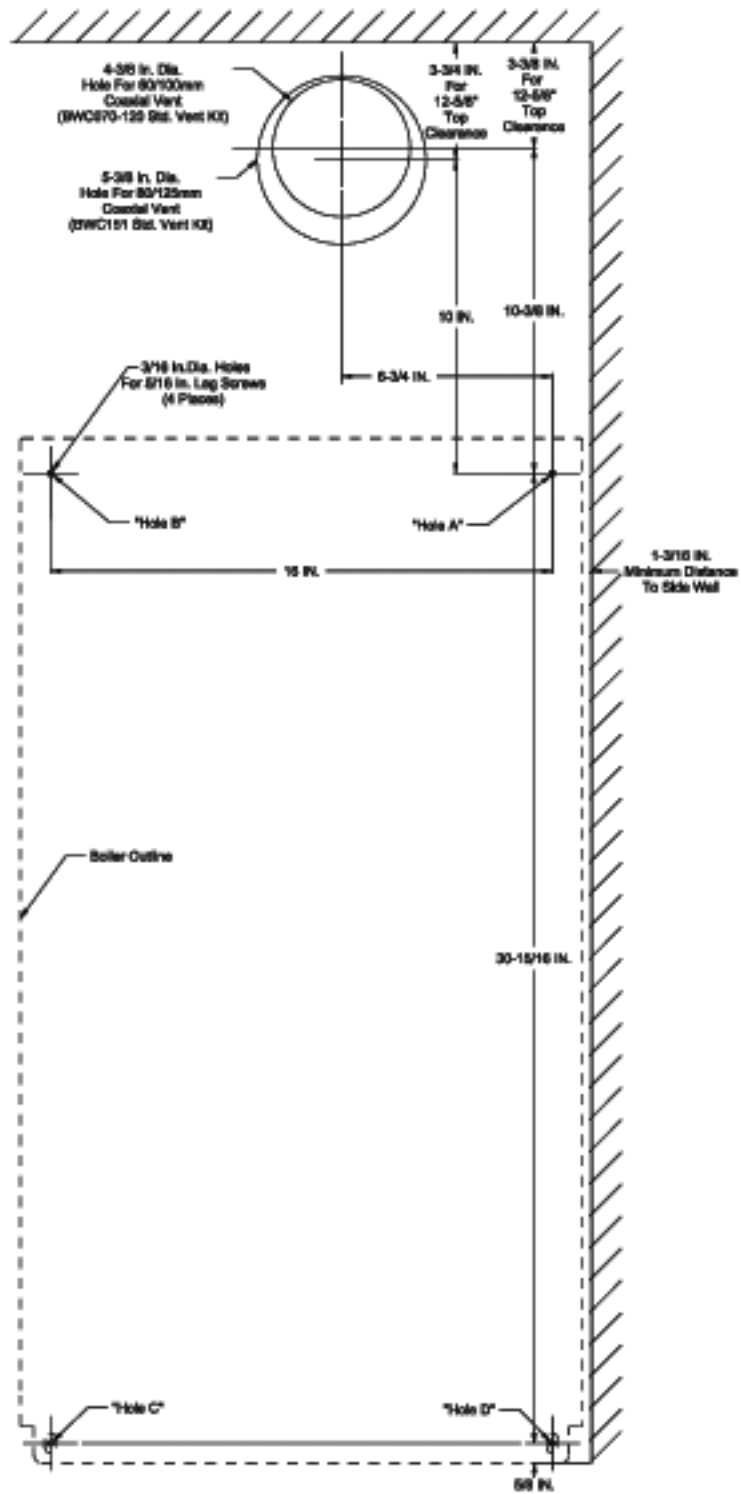

Figure 5.1 Wall Mounting Hole Locations
- 5) Once a suitable location has been selected for the boiler, and any needed modifications have been made to the wall, use Figure 5.1 to locate holes "A" and "B". Make sure that the horizontal centerline of these holes is level. Holes "C" and "D" may also be drilled at this time or after the boiler is hung on the wall. If the 5/16" x 2" lag screws are used, drill 3/16" pilot holes.